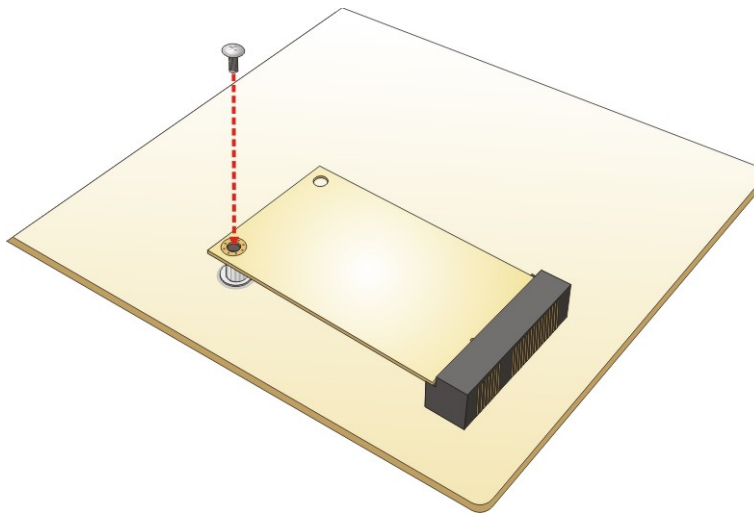

Figure 4-4: Securing the mSATA Module
Step 4: Secure the mSATA module with the retention screw previously removed (Figure 4-4).